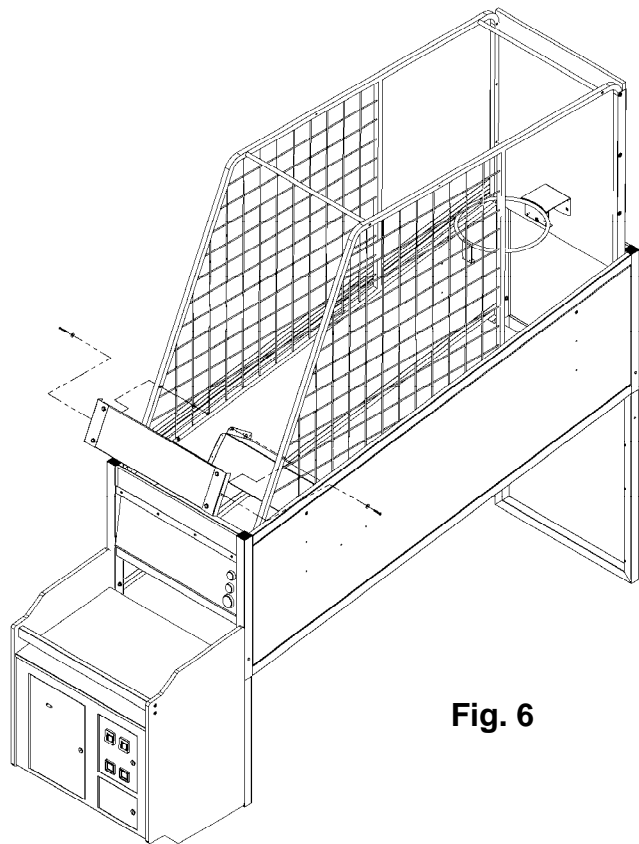

Fig. 6
11. Install the rebound guard using (2) 1/4-20 X 1 3/4" bolts, (4) flat washers and (2) Nylock nuts. (See Fig. 6)